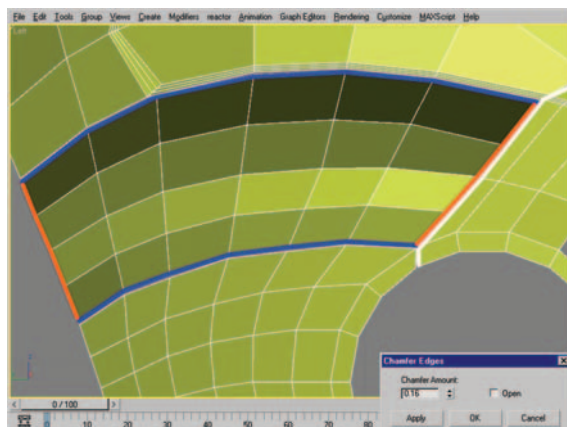

Figure 8.62 Two separate edge selections highlighted. Use Chamfer on these selections one at a time to achieve the desired result.
63. Select the edges highlighted in blue in Figure 8.62 and use the Chamfer settings dialog box with a Chamfer amount of
64. Select the edges highlighted in *orange* in Figure 8.62 and use the Chamfer settings dialog box with a Chamfer amount of 0.16 to create two new rows of edges that flow parallel alongside the original selection.